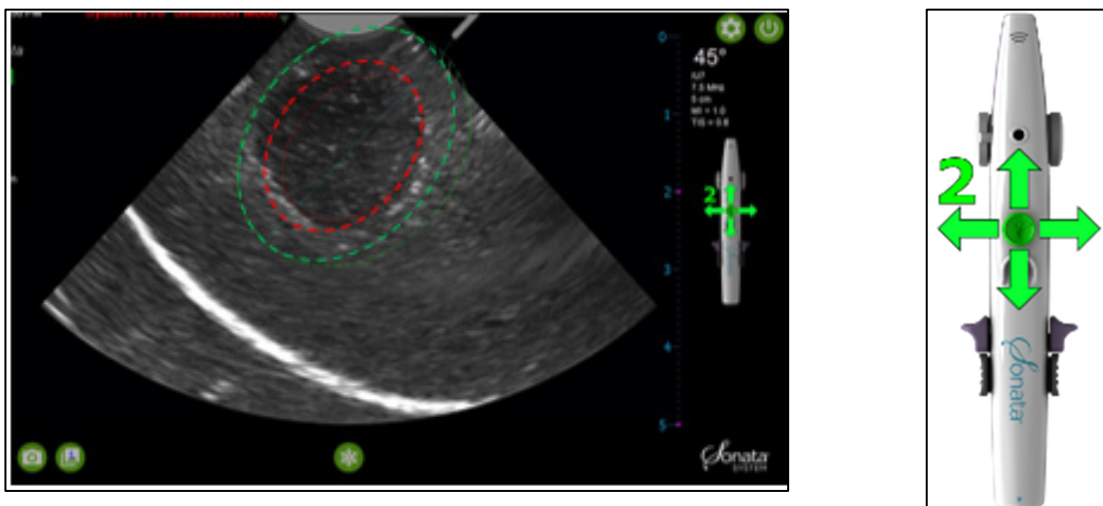

Figure 4-12. Use SMART Control to adjust the ablation depth and size.
- To display the Ablation Zone (red inner ellipse) and Thermal Safety Border (green outer ellipse), push the SMART Control forward, see Figure 4-12.